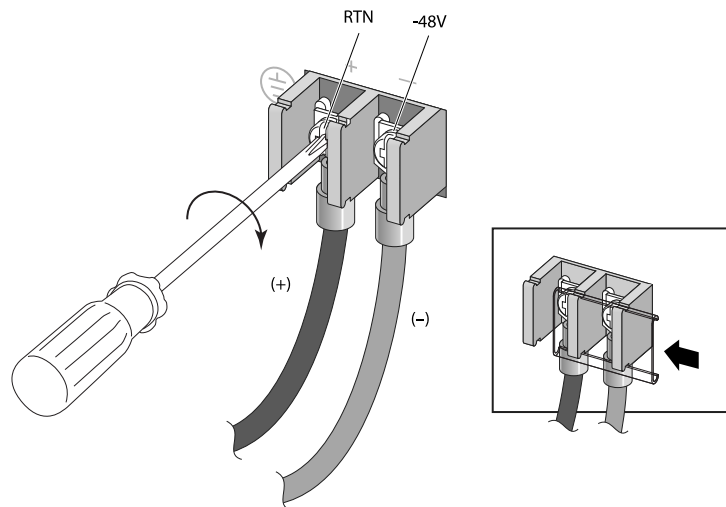

Figure 414: Connecting the DC Power Cables: Part 2
- d. Tighten both screws on the terminal block to 15.9 in-lb (1.8 N-m) as shown in Figure 414.